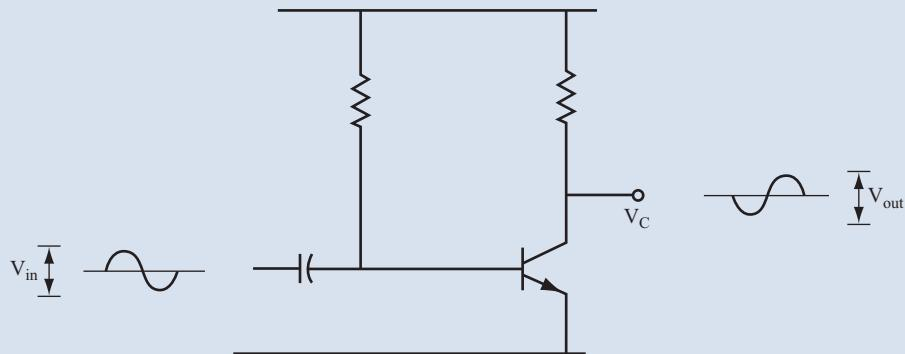

FIGURE 8.4
B. A sine wave, but inverted as shown in Figure 8.4.
9 Figure 8.4 shows the input and output sine waves for an amplifier circuit.
10 For the circuit shown in Figure 8.4 you can calculate the voltage gain using the following formula: